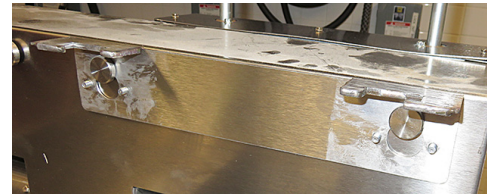

**Figure 25**
38. Using supplied 8091101 screws, attach to the cover using the two inner holes (see Figure 25).